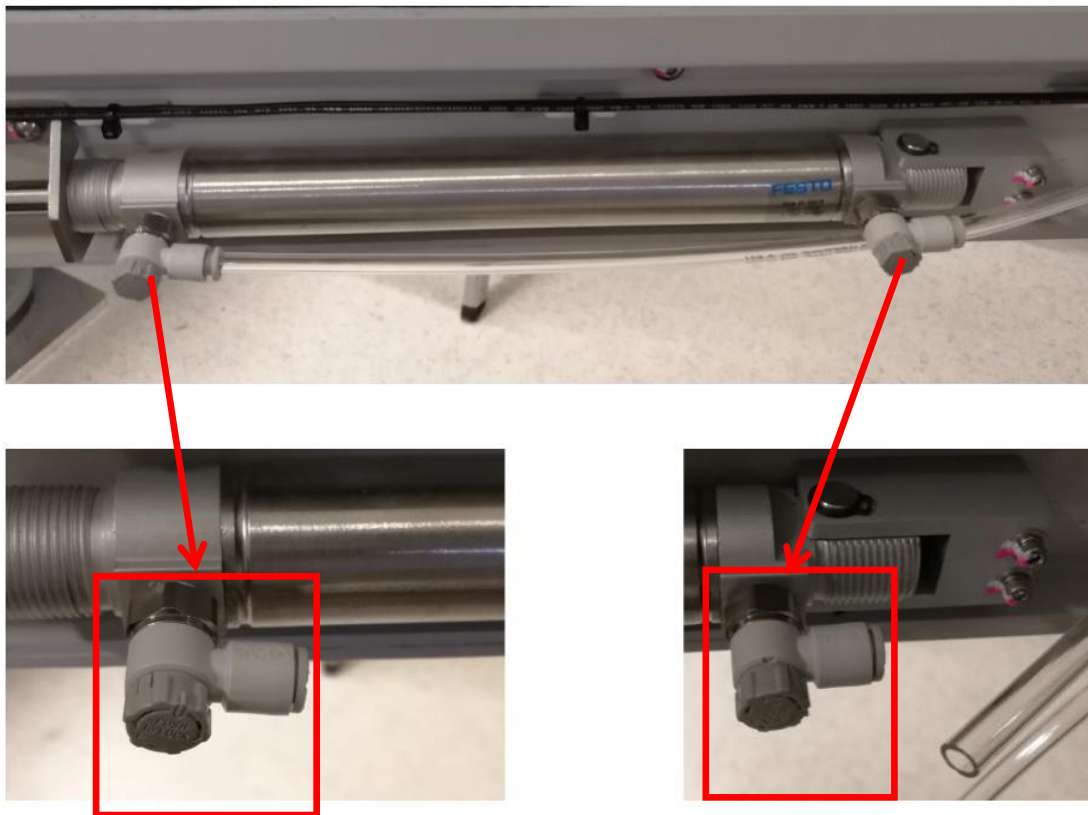

Figure 10
14. Remove 2 x Outer Barrier Speed Controllers as Figure 10